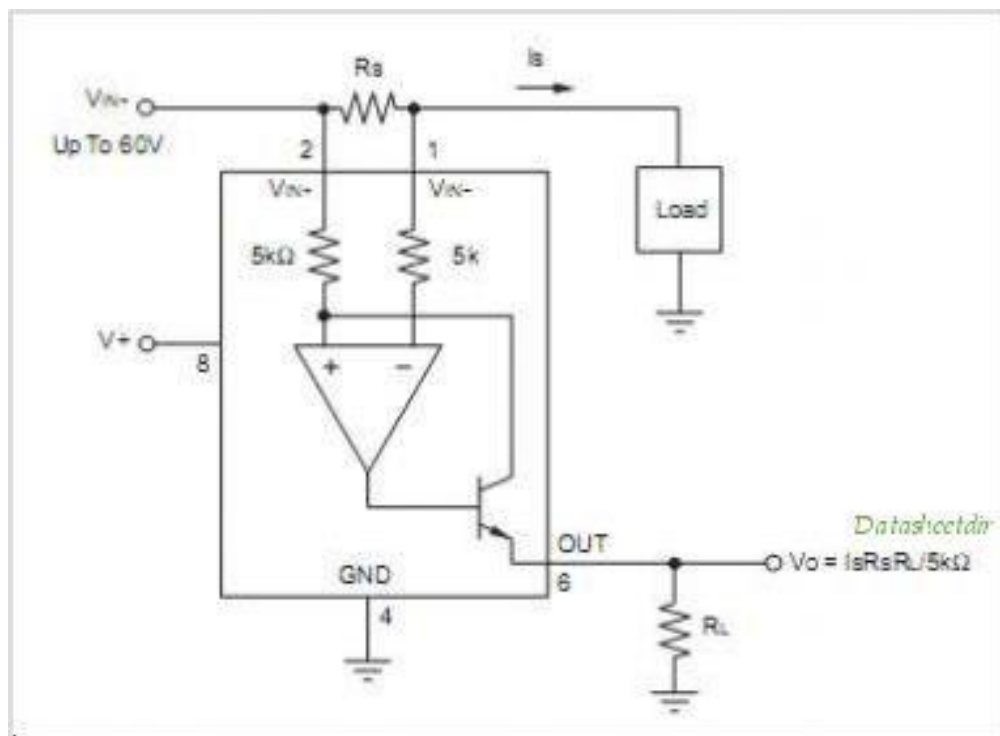

Figure 3 – In depth look at a high side current sensor (2)
For the most part the method for high side sensing is most effective when choosing a current sensor. In low side sensing there can be ground disturbances. This can be tolerated in some designs but high side sensing eliminates this because the sensor is not directly connected to ground. (4) Another important aspect of high side current sensing is that the sense amplifier can handle a wider range of supply voltage. This is useful for high voltage applications like automotive design. A schematic of a typical high side current sensor can be seen in Figure 3.